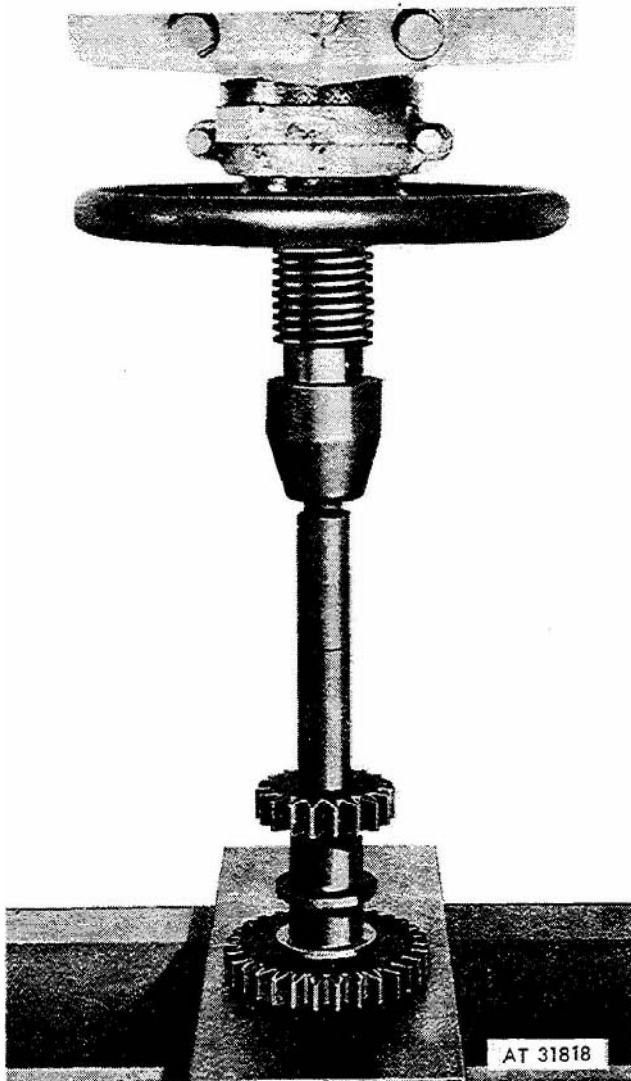
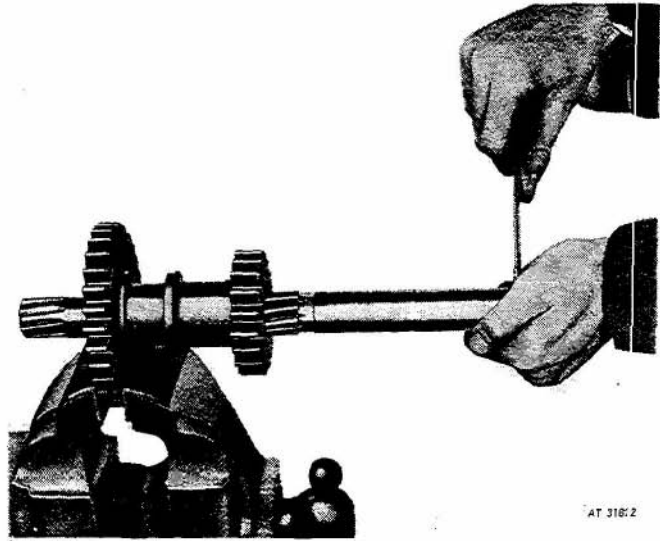

Figure 3-22. Removing and installing reverse idler gear bushing.
Figure 3-26. Reaming reverse idler gear bushing
(38) Using a suitable hammer and soft metal drift rod, drive reverse idler gear shaft (12) through transmission case from front to rear.
(39) Lift reverse idler gear (10) out through top of transmission case.
(40) Press idler bearing bushings (9 and 11) from reverse idler gear (fig 3-22).
(1) Press new idler bearing bushing (9 and 11, fig 3-14) into reverse idler gear (10) until ends of bushings are flush with end of gear (fig 3-22).
(2) Using a suitable staking tool, stake both reverse idler gear bushings securely in place at two places on each bushing.
(3) Line ream idler bearing bushings (9 and H, fig 3-14) to 1.2455 - 1.2465 of an inch (fig 3-26).